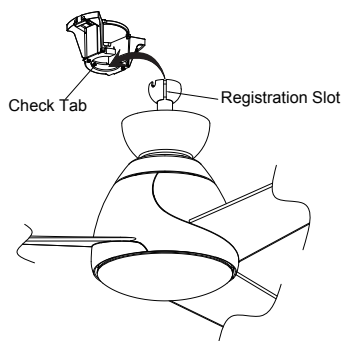

Fig. 11
**Step 8.** Now lift the motor assembly into position and place the hanger ball into the mounting bracket. Rotate until "Check Tab" has dropped into the "Registration Slot" and seated firmly. (Fig. 11) The entire motor assembly should not rotate.